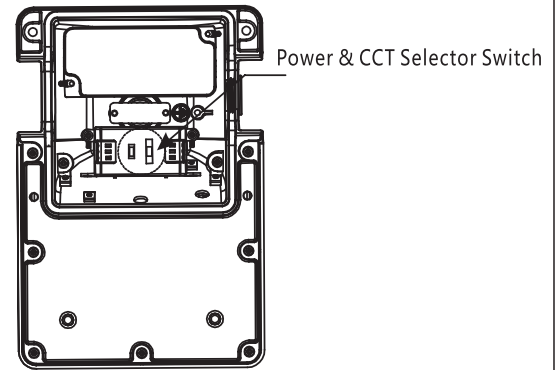

Fig. 6
6. Adjust the power and color temperature of the lighting fixtures according to the needs, as shown in Fig.6